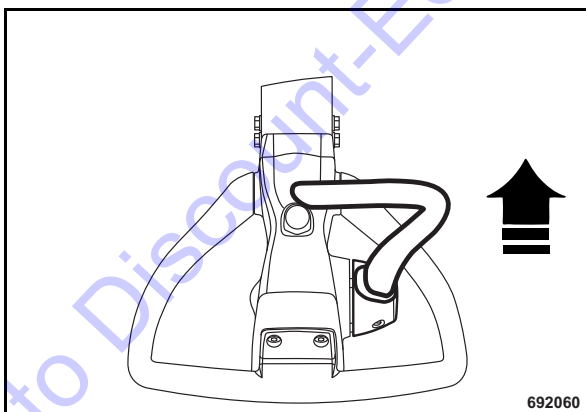

Fig. 77
- Hold the travel lever in forward position (Fig. 77).